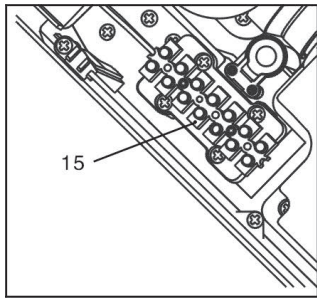

fig.4
7. Connect the power cord to the terminal block where indicated (see fig.4).